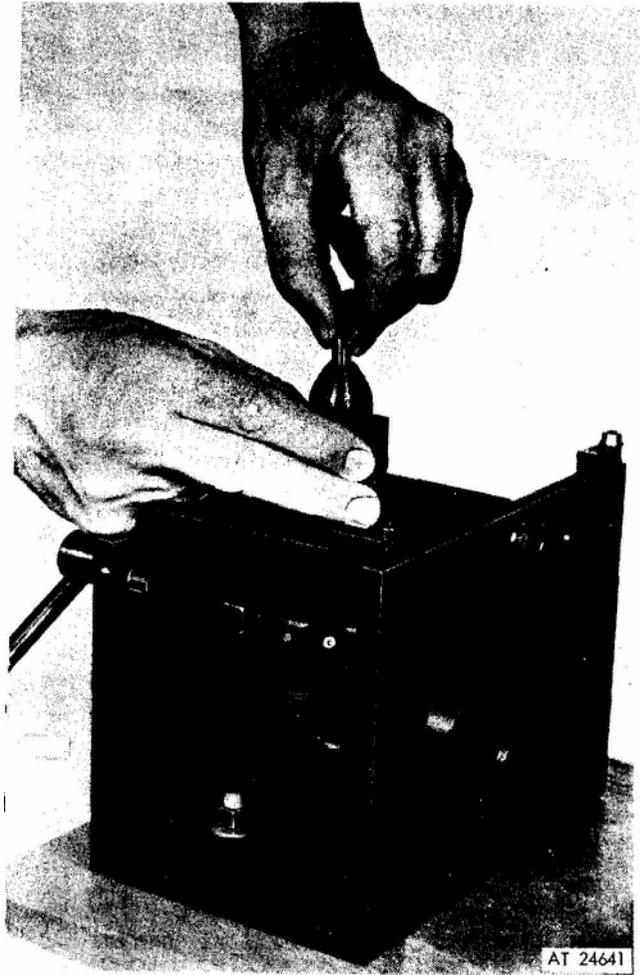

Figure 33. Tightening injector nut by hand
7. Lubricate the threads in the injector nut and carefully thread the nut on the injector body by hand. Rotate the spray tip between your thumb and first finger while threading the nut on the injector body (fig. 33). Tighten the nut as tight as possible by hand. At this point there should be sufficient force on the spray tip to make it impossible to turn with your fingers.